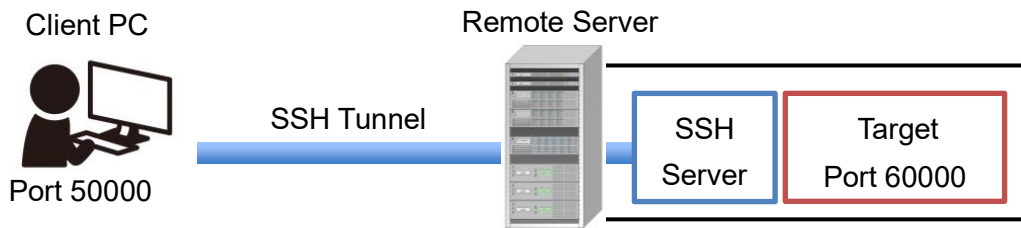

Figure 4.2-1 Abstract of local forward
- 3) In the **Select Direction for Forwarded Port** dialog, select **Forward Local Port** (it means the local forwarding) and enter the port number to be used for PBVR Client, which is corresponds to the port 50000 in Figure 4.2-1. In the **to remote machine** text field, enter the domain name or the IP address of the server, which is corresponds to the target address in Figure 4.2-1. In the **port** field, enter the port number to be used on PBVR Server, which is corresponds to the port 60000 in Figure 4.2-1. Click on **OK** to complete the setup of port forwarding.
- 4) Connect to the server. Select **File > New Connection** from the menu bar. In the **New Connection** panel, enter the host name of the server which is corresponds to the remote server address in Figure 4.2-1, and click on **OK**. In the **SSH Authentication** panel, enter the user name and passphrase, or specify the location of the private key file, and click on **OK**.